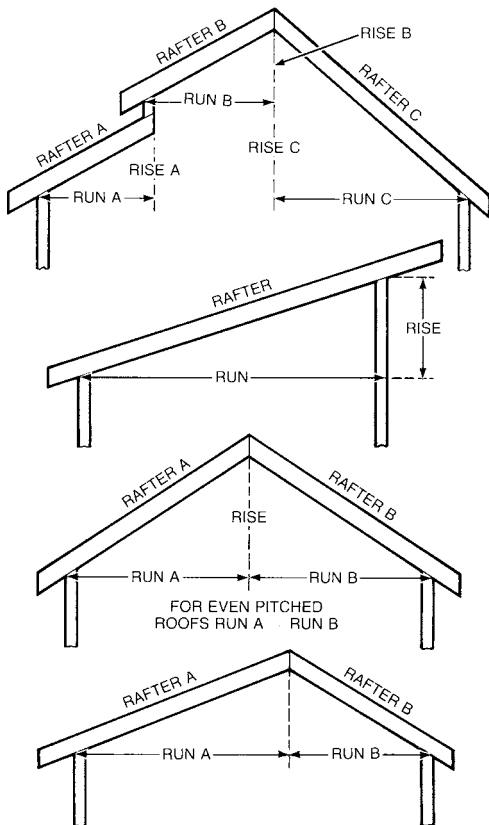

FIG. 2 Rafter Runs and Rises for Different Style Roofs.
The use of our square for rafter layout is based on two simple and common building measurements: (1) the rafter run, and (2) the rafter rise. These are available from either the building blueprints, drawings, or actual measurements. The tables included in the back of this book are also based on these two simple measurements (see Figures 2 and 3, and also the tables starting on page 40).
STEP 2. OBTAIN ROOF RISE: Find the distance you wish the roof ridge to be above the wall (in feet) by measuring, calculating or obtaining it from the blueprints (see Figure 2).